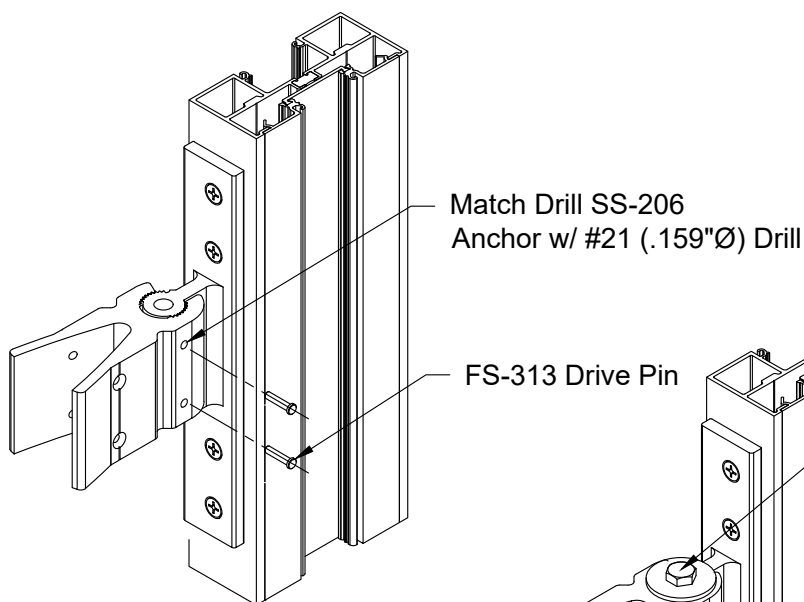

FIGURE 33
- 4) Slide SS-208-01 mounting arm over the previously installed SS-207-04 anchor. Match drill at least two holes through the SS-208 into the SS-207 using #21 (.159" Ø) drill. SEE FIGURE 33